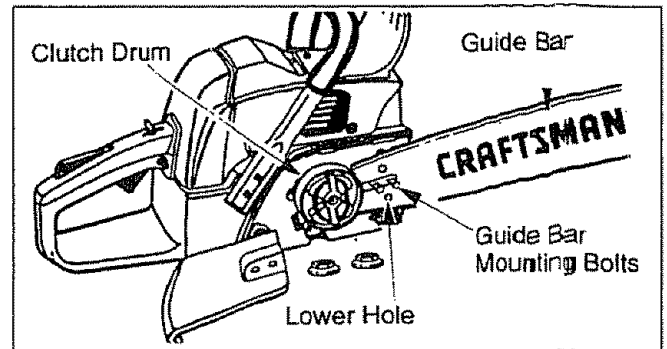

Figure 8
- Mount guide bar with slotted end over both guide bar mounting bolts. Insert adjusting pin into the lower hole in the guide bar. Install the bar with "Craftsman" logo in up position (see Fig. 8).